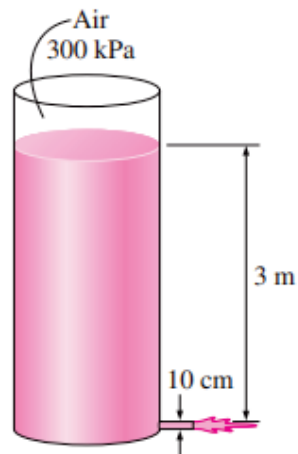

Figure 3 / Rajah 3
- (4). (a). A pressurized tank of water has a 10-cm diameter orifice at the bottom, where water discharges to the atmosphere as shown in Figure 3. The water level is 3 m above the outlet. The tank air pressure above the water level is 300 kPa (absolute) while the atmospheric pressure is 100 kPa. Neglecting frictional effects, determine the initial discharge rate from the tank.